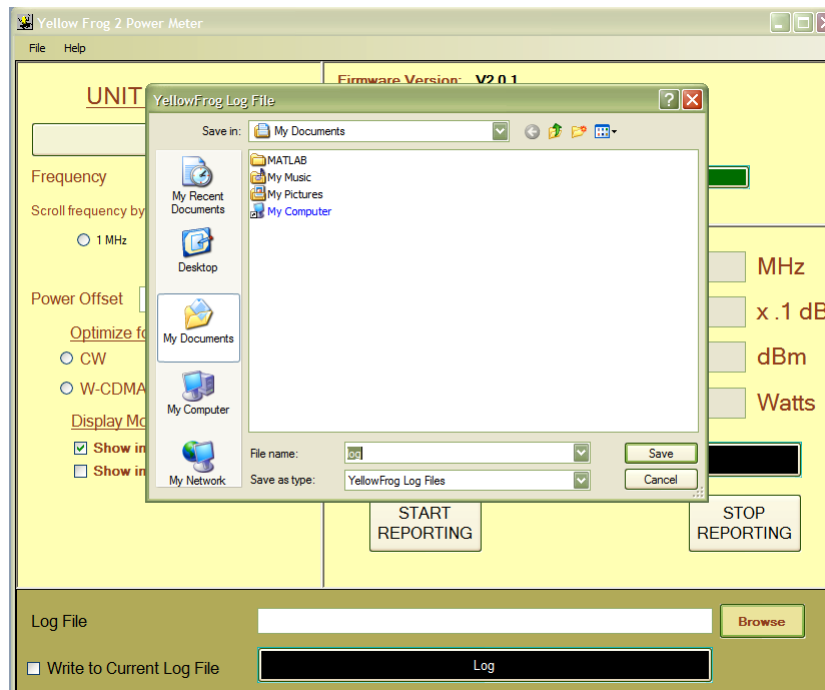

Figure 2. Initiating the Log File for Recording Measured Data
8. To record the measured data, left-click the “Browse” button at the bottom compartment in the YF2 Power Meter window and create a “log” file in the desired directory by pressing “Save” and checking the box in front of “Write to Current Log File” as seen in Figure 2 below. As long as the “START REPORTING” button is pressed, the data will be recorded, accompanied by the flashing of the label” **Log**” in green background. To stop recording (and/or reporting), press the “STOP REPORTING” button.